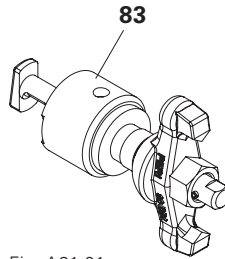

Fig. A21.01
Turn the Extraction Tool MX Sealing (83) backwards. (Fig. A21.01)